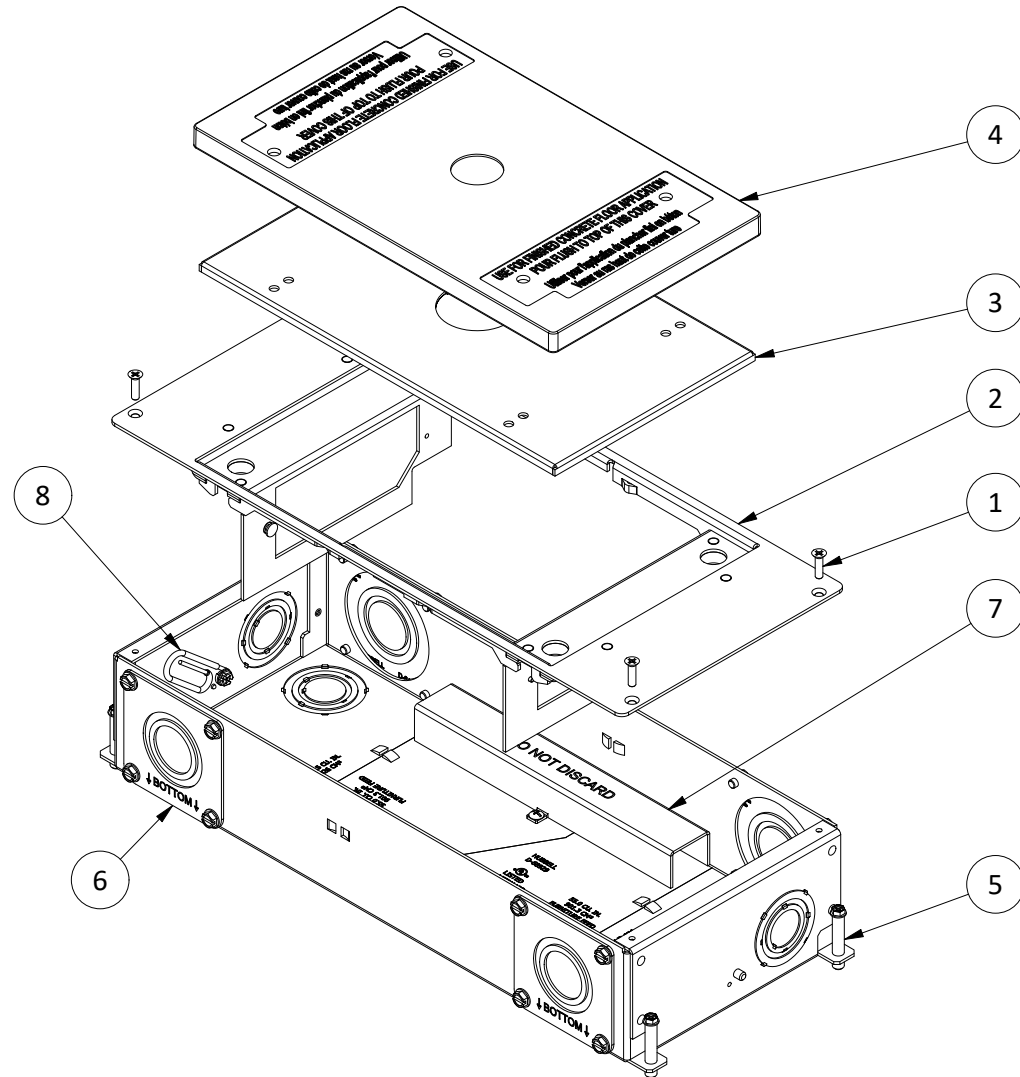

FIGURE 3
3. Install leveling screws [5] as shown in Figure 3. Level box as required. Be sure to set height of the top of box or temporary plastic cover to be flush with the finished level of the concrete pour.